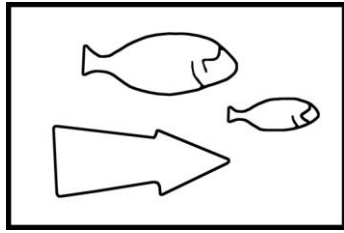
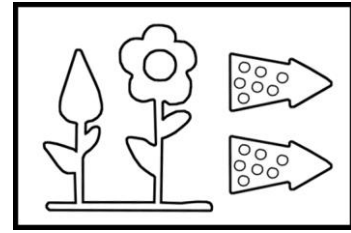

Fig 4
Fig 5
- Remove the hose from the hose connection of the filter Fig. 4 (arrow pointing away from the filter, fish pictured) and attach it to the third hose connection of the filter Fig. 5 (arrow pointing away from the filter, flower pictured).